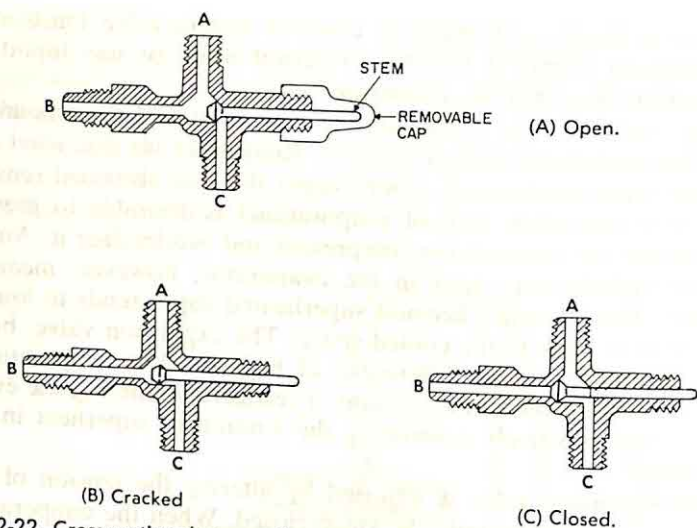

Fig. 2-22. Cross-sectional views of a service valve in the three possible positions.
Service valves are required in central-system units because of the need to evacuate, charge, or check the refrigerant pressure from time to time. Three-way valves (Fig. 2-22) containing a normally closed service port (C) permit servicing the system without loss of refrigerant.